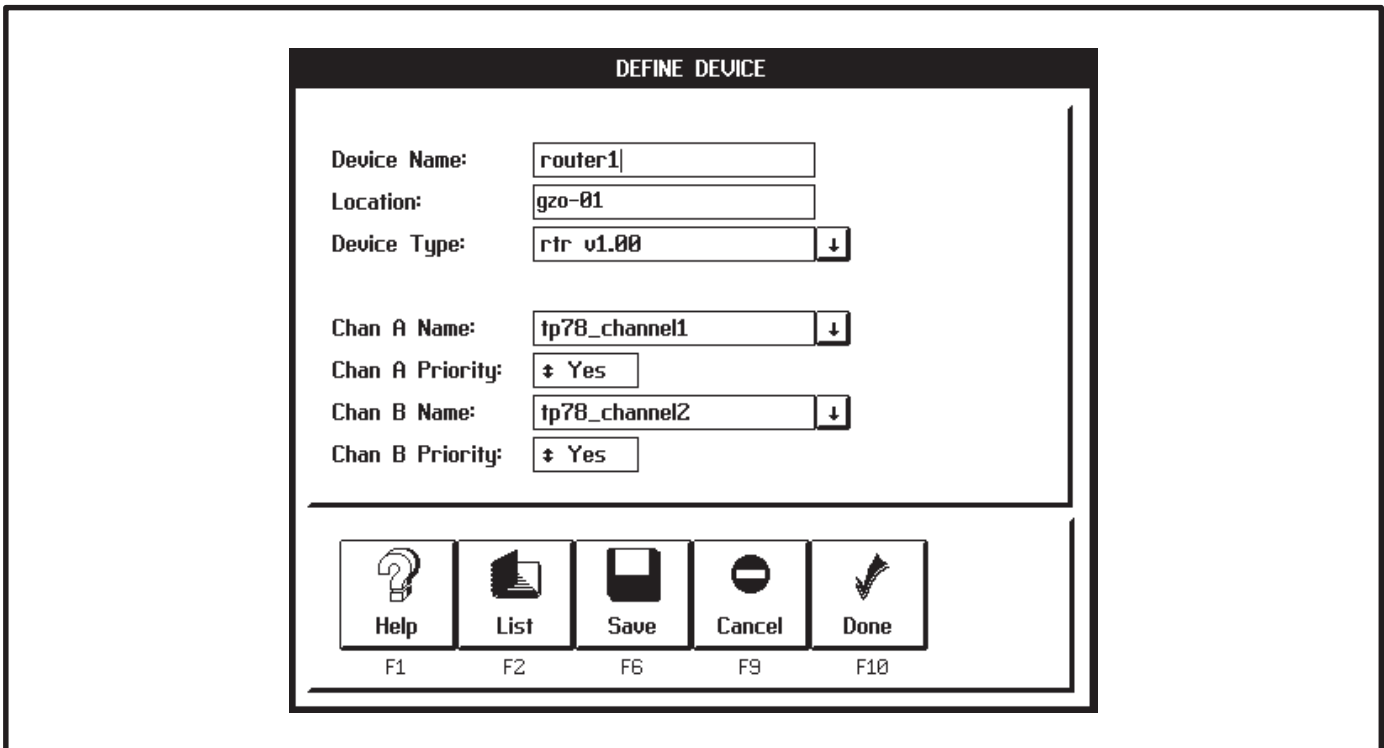

FIGURE 3-9. DEFINE DEVICE SCREENS
3. Click on the Define (F2) action button. The DEFINE DEVICE screen appears (Figure 3-9).